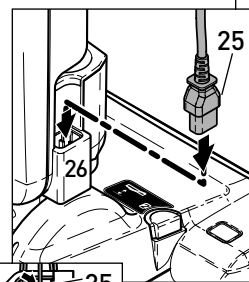
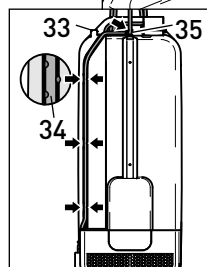
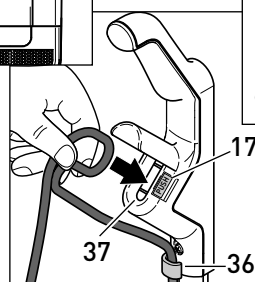

Figure 2
Figure 3
Figure 4
2. Attach the power cable (15) to the machine. Push the rubber cable plug (25) into the cable plug socket (26) on the side of the vacuum (figure 2). Ensure the rubber plug is fully inserted down into the socket. Fit the cable into the groove (34 - figure 3) located in the cleaning wand recess on the front of the machine. Attach to the cable hooks on the top of the bag housing (35 - figure 3) and on the rear of the handle (36 - figure 4). Finally, loop the cable as shown in figure 4 and insert it into the cable cleat (37). You will hear a "click" when the cable is fully inserted. To remove the cable, push the cable release button (17) next to the cable cleat (37) and remove the cable.
3. Push the black end of the attachment hose (16) into the connecting tube (39) so that it clicks into place. Insert the cleaning wand (6) into the swivel neck opening and seat the handle (2) over the protruding tab (33 - figure 3). To remove the hose, squeeze the retaining ring (3) and pull the hose out of the connecting tube.